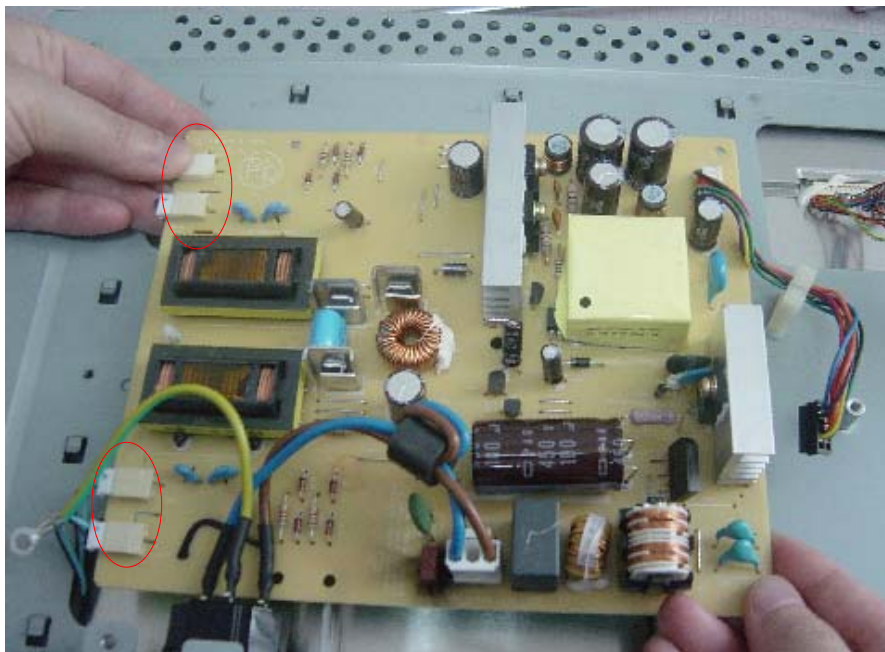

Fig 11
2. Remove connector wire with power board and panel. (Fig 11)